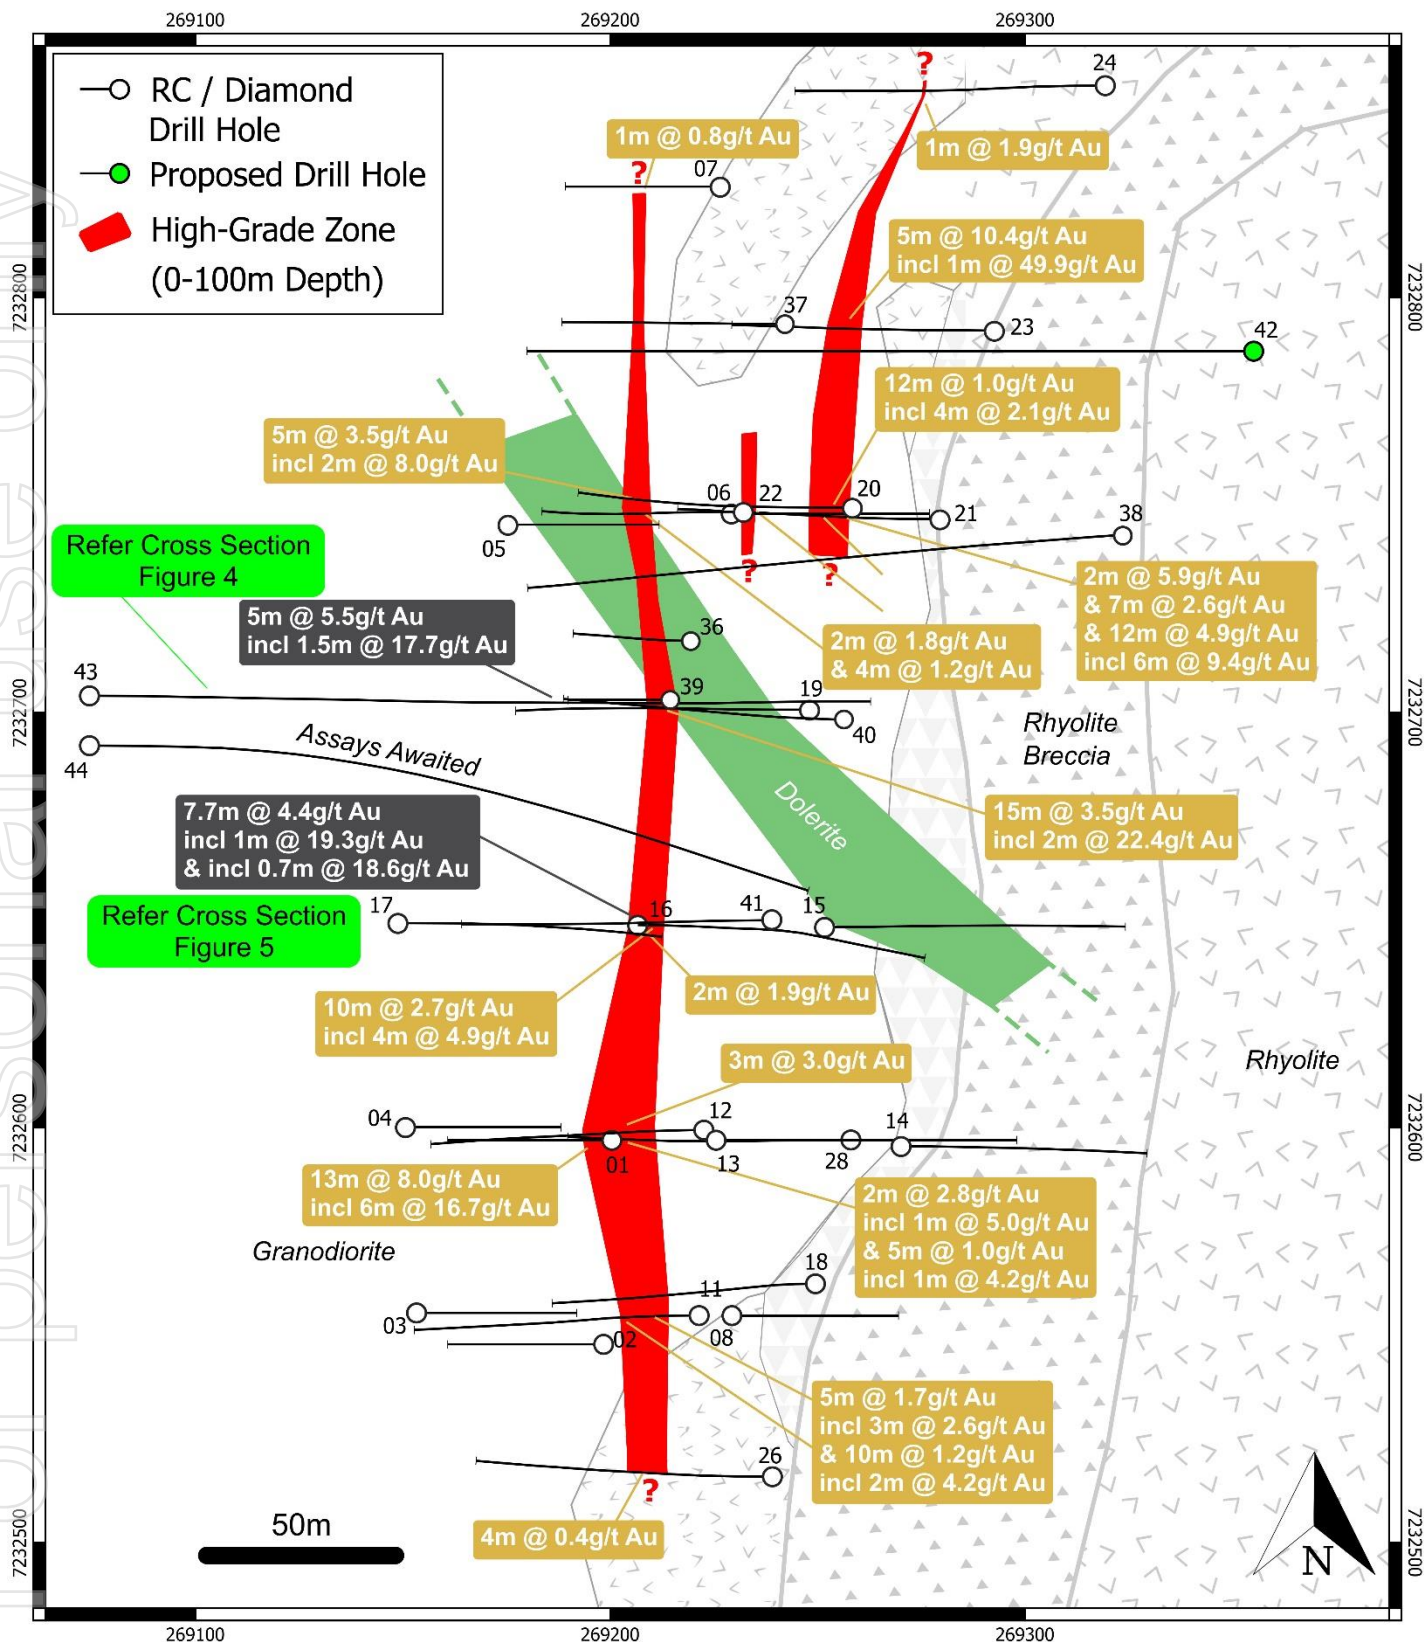

Figure 3: Red Mountain Plan Showing High-Grade Gold Zone (new results in black text box, previous results in gold text box)
- Hole 044 drilled beneath hole 043 shows similar alteration and trace indicator sulphides (sphalerite & galena) consistent with gold mineralised intervals, (refer to figures 3 & 4), core has been cut and dispatched to the laboratory – assays are pending.
The current drill program has focused on the western part of the prospect area (Figures 2 - 5). This area is part of a larger total target zone extending some 2.2 km around the rim of the breccia pipe (Figure 3).